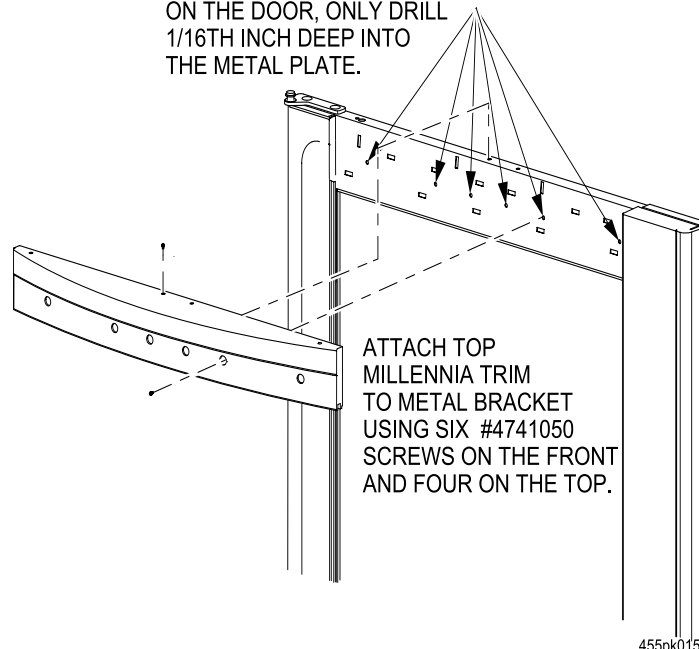

Figure 1
5. Using a pencil or marker, place a mark in each hole using the Millennia trim as a template. You should have a total of six marks in front of the door frame and four marks on top of the door frame when you are finished (See figure 1).